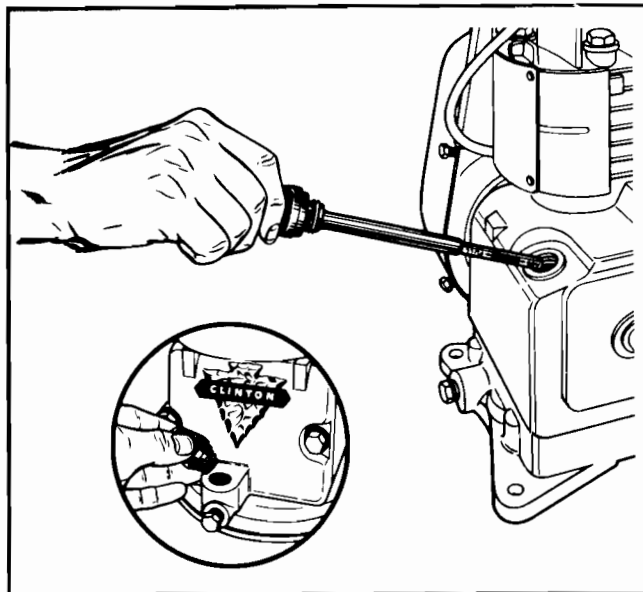

Figure No. 4—Checking Oil Level in Base
2. Fill the crankcase on horizontal crankshaft engines until the oil level is up to the 'full' mark on the dipstick. (See Figure No. 4.)
3. The oil level in vertical shaft engines should be up to the threads in the filler plug hole. (See Figure No. 4.)